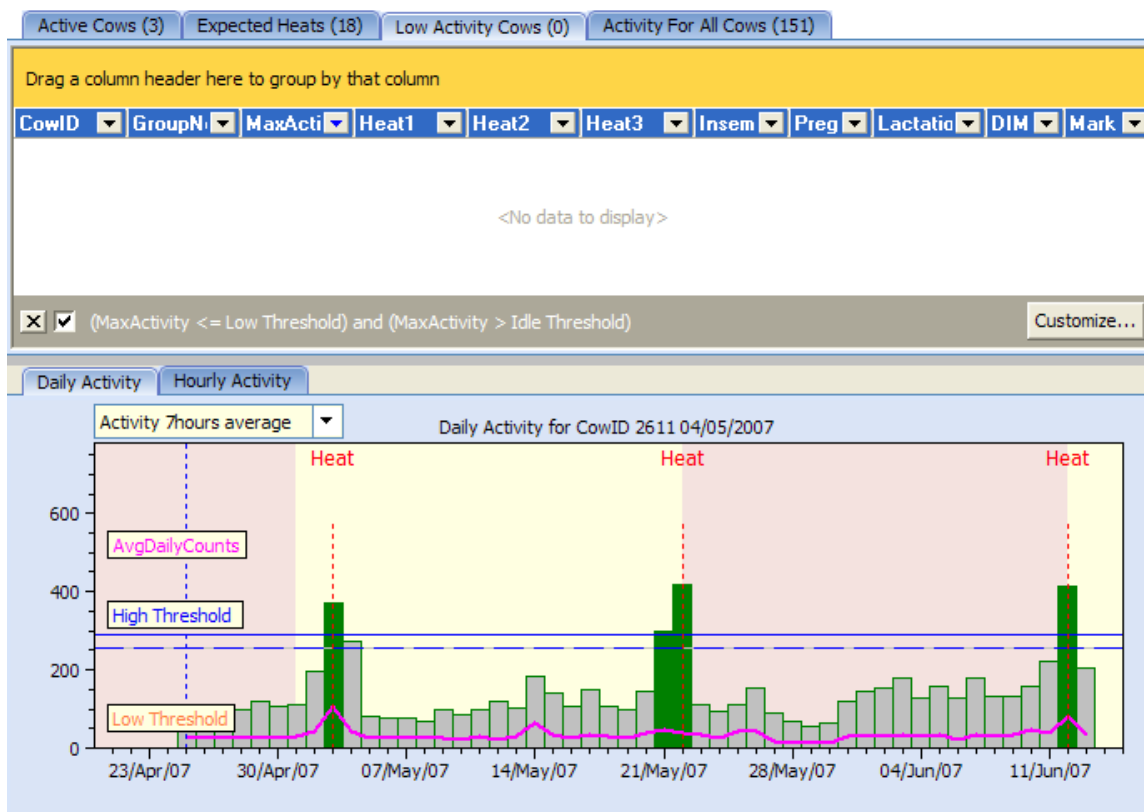

Figure 10 Low Activity Cows Tab.
Click on the 'Low Activity Cows (0)' tab on the top of Figure 10 to move into the Low Activity Cows tab. The number (0) denotes that there are no CowID's detected as having very low activity in this example. If there are any CowID's showing up in here, they may warrant further investigation.